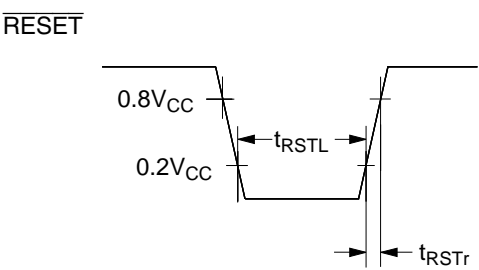

Figure 86 \overline{RESET} Timing
5. Refer to figure 86.
7. Refer to figure 86.